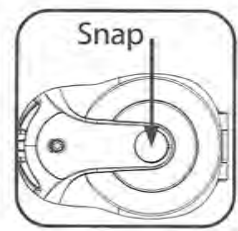

Figure 11
3.1A: **Carefully** snap the ROUND COVER into place on the Pürleve Handle Cover. (Fig. 11)